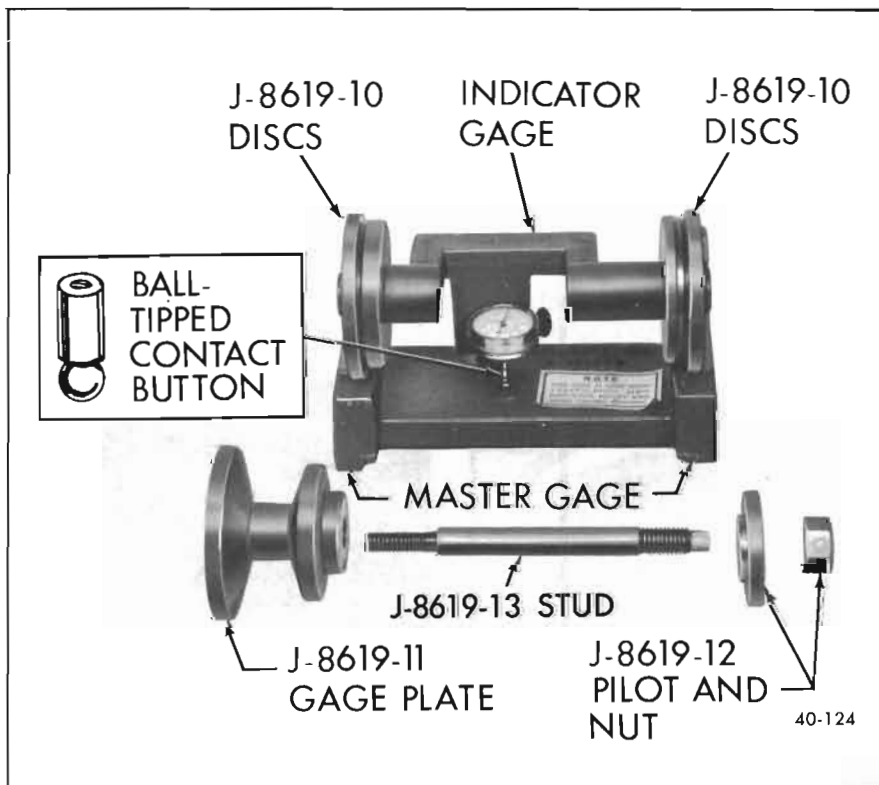

Figure 40-124—Pinion Setting Gauge
Pinion depth is set with Pinion Setting Gauge J-8619 which consists of the following: (1) master gage, (1) indicator gage with dial indicator, (2) J-8619-10 Discs, (1) J-8619-11 Gage Plate, J-8619-12 Pilot and Nut with J-8619-13 Stud. See Figure 40-124. Although production pinions are marked, neither production nor service pinions have a gaging tooth. The pinion setting gauge provides in effect a nominal or zero pinion as a reference.
2. Install the J-8619-10 Discs on the indicator gage. Install the small ball-tipped contact button on the stem of the dial indicator and mount the dial indicator on the indicator gage. See Figure 40-124.